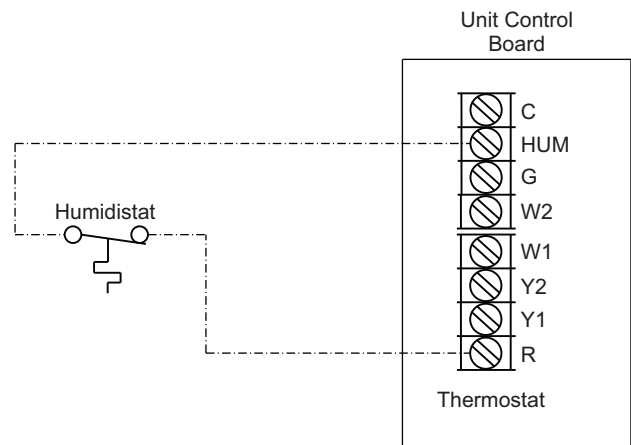

Fig. 32 — Humidistat Connections to UCB
3. Connect one of the leads from the 2-conductor cable to the HUM terminal on the UCB (Unit Control Board). Connect the other lead to the R terminal on the UCB. See Fig. 32.